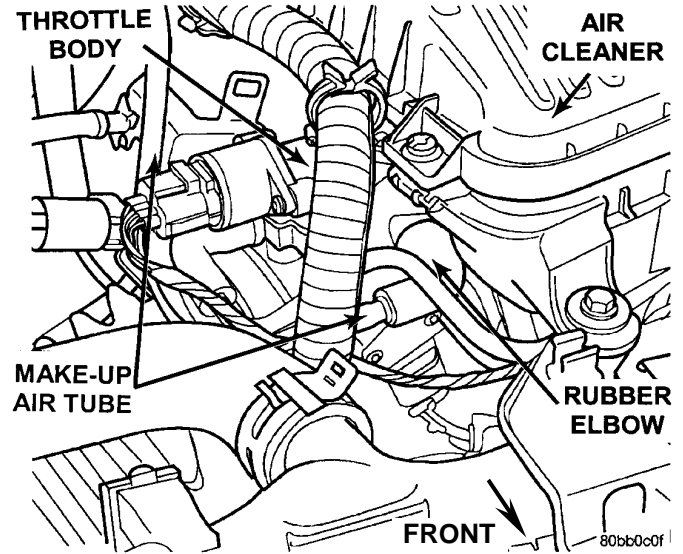

Figure 1
1. Disconnect the nylon make-up air tube from the rubber elbow that is connected to the throttle body assembly (Figure 1).
2. Remove the rubber elbow from the throttle body assembly (Figure 1). Save the elbow for later use.